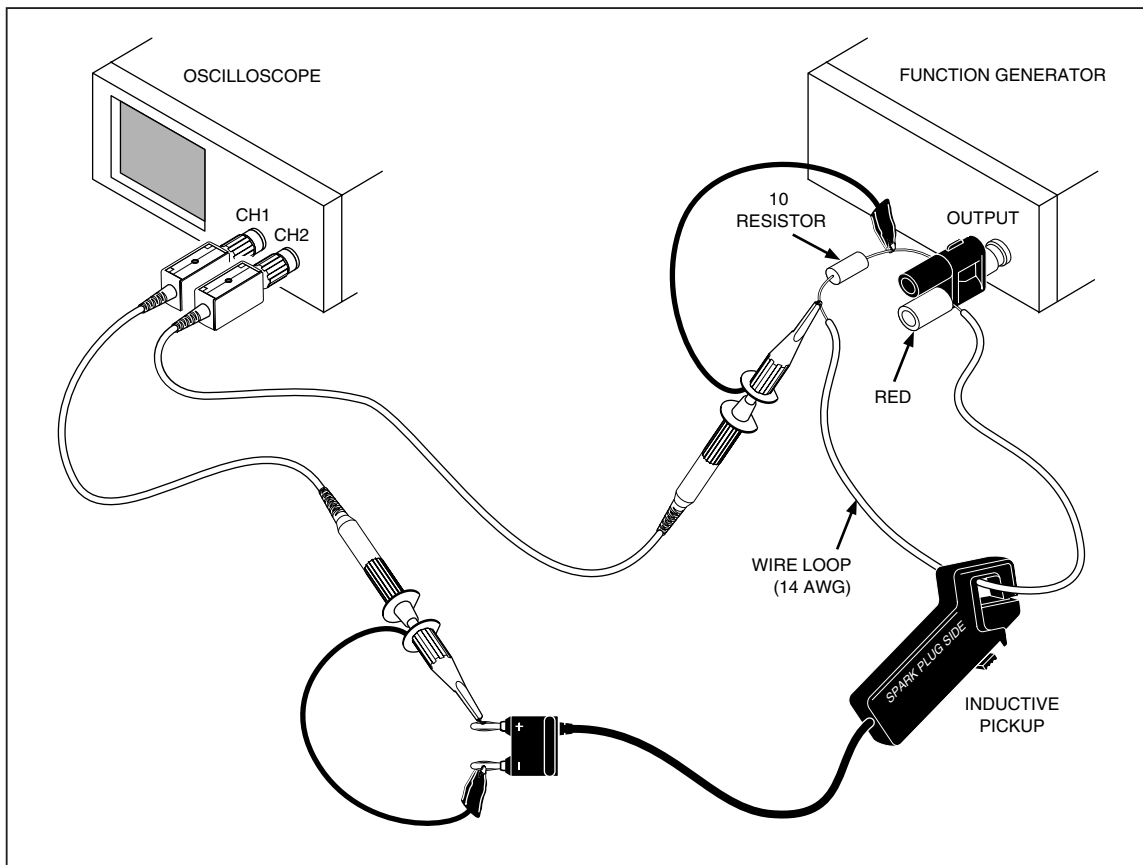

Figure 5. Setup for Inductive Pickup Test
2. Connect the other end of the 10 Ω resistor to the terminal LOW output of the function generator. Place the other end of the 14-AWG wire to the HIGH output of the function generator. See Figure 5.
4. Clamp the inductive pickup to the wire loop on the HIGH side of the resistor as shown in Figure 5.